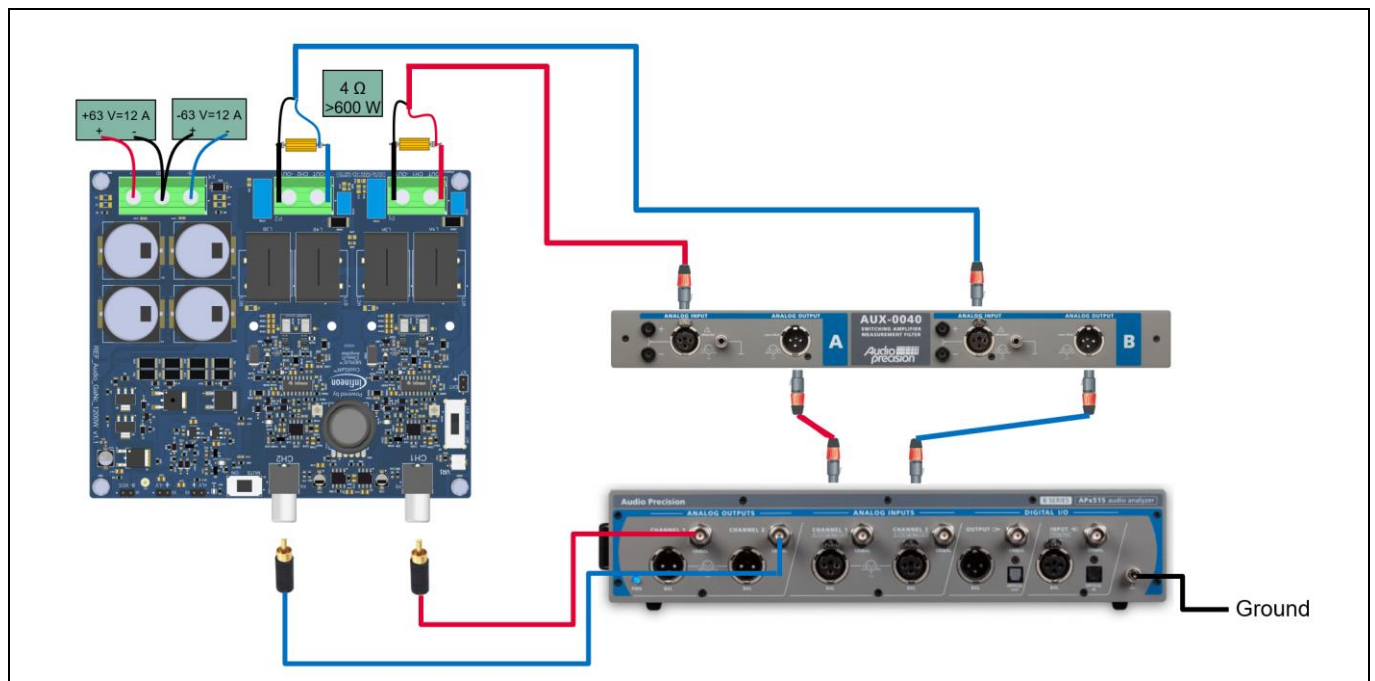

Figure 5 Typical operation setup for SE operation of Ref\_Audio\_GaNc\_1200W
1. For SE, connect  $4\ \Omega > 600\ W$  capable dummy loads according to Figure 5
3. Connect audio analyzer according to Figure 5 for SE or Figure 6 for BTL
4. Connect the **Audio Signal Generator** (ASG) of AP to X5 and X6 as shown in Figure 5
10. Connect the dual power supply to X4 as shown in Figure 5